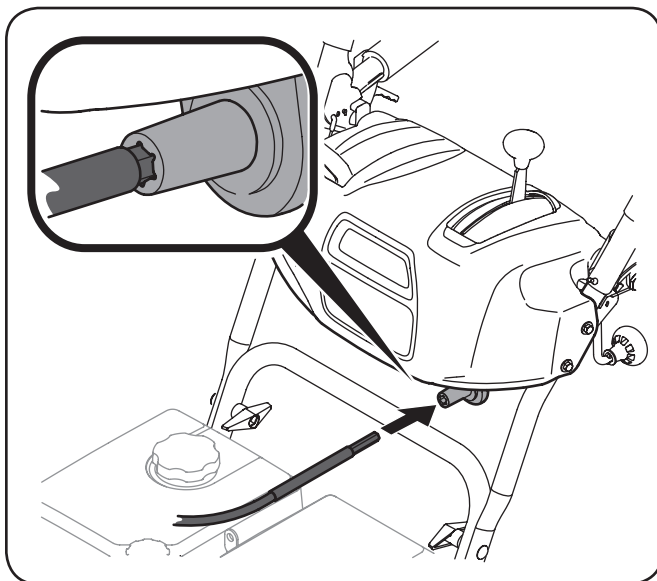

Figure 3-18
6. Insert the flex shaft into the chute control rod coupling under the dash panel. See Figure 3-18.